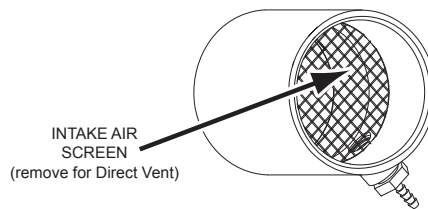

Figure 18. Intake Air Screen
13. Ensure the Intake Air Screen on the Intake Air Connection to the water heater is removed before connecting the intake air pipe to the water heater. See **Figure 18** (page 24).